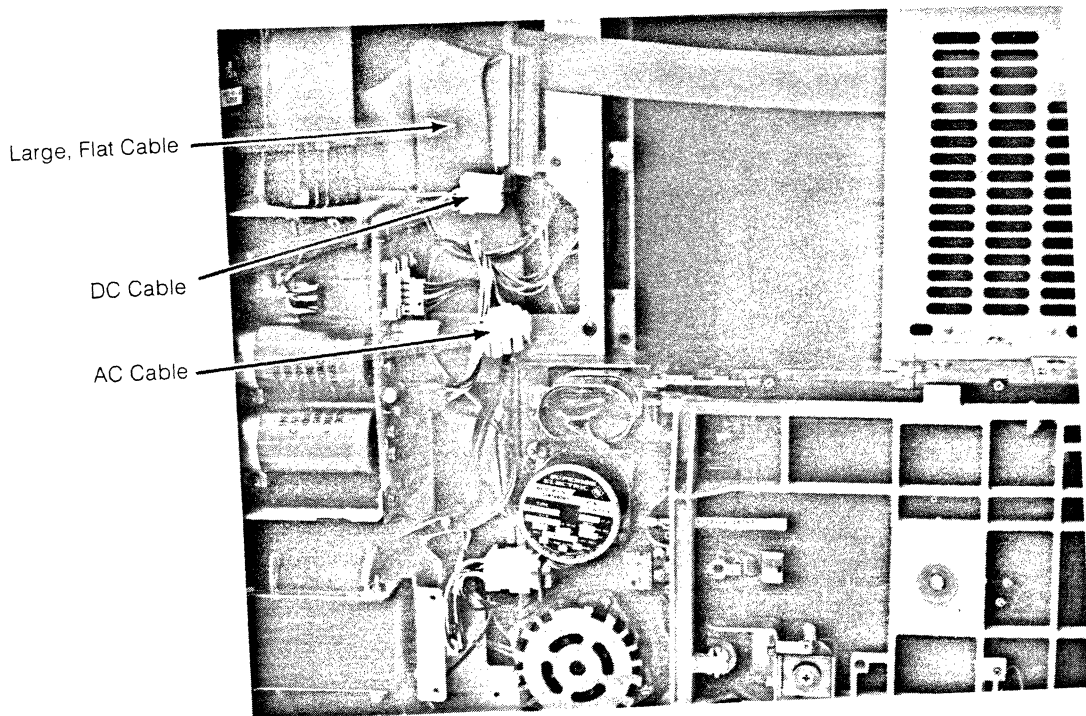

Figure C-6. Top View of Drive Location
19. Attach the ac and dc connectors at the rear of the drive (see Figure C-6).